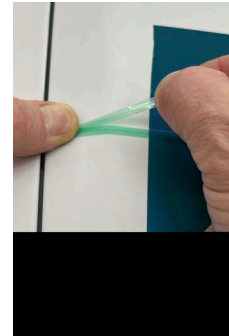

Figure 7.
4. Fold the start of the tape back over itself approximately 3 in. (7.6 cm). Press your thumb firmly on the folded edge, covering at least 1/2 in. (1.3 cm) of tape. (See Figure 7.)